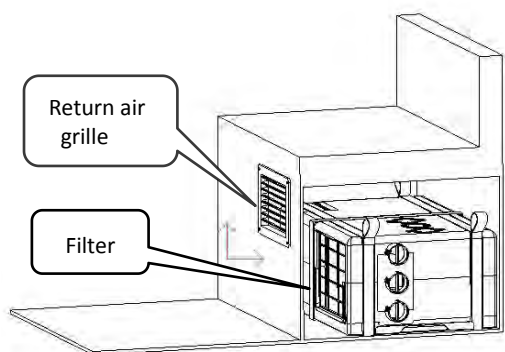

Figure 1-Preferred orientation of the unit where the filter is on the same side and close to the return air grille
- The filter side of the unit should face the open side of the seat/bed where the return air grille is (Figure 1)